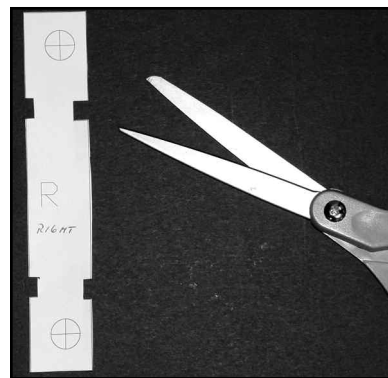

Figure 4
5. Cut Right Template from page 5. (Scissors) **Figure 4**